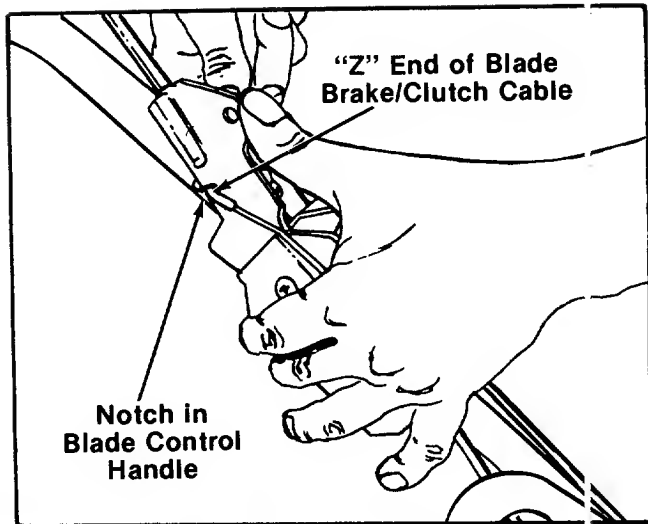

FIGURE 6.
- a. Hook the "Z" end of the cable into notch provided in the blade control handle. See figure 6.